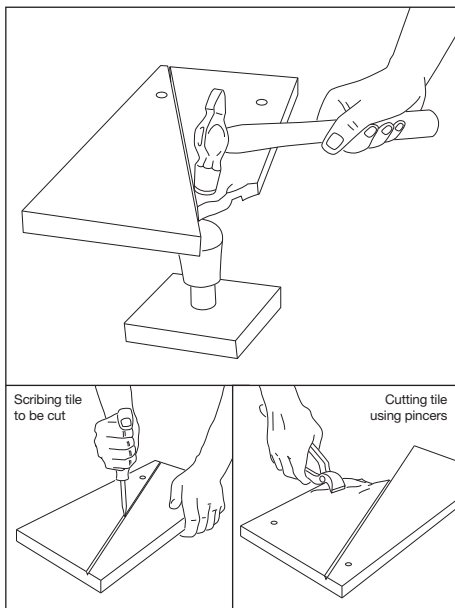
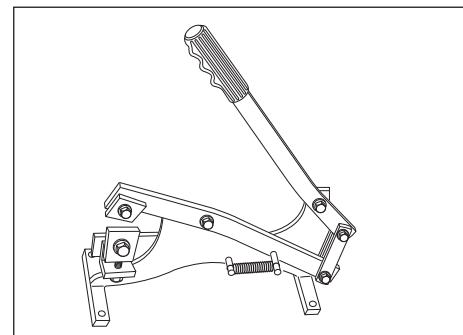

Fig. 18 – Cutting methods for plain tiles
Fig. 19 – A typical tile cropper
- 1 Traditionally, tiles for hips and flashings are cut using a hammer or pincers (Fig. 18) and tile cropper (Fig. 19).